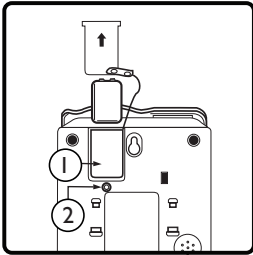

Figure 1
If there is a power outage, the XL50 will operate for up to 48 hours with four AA alkaline backup batteries (not included). If the phone is not in use, the batteries will stay charge for several months. See Figure 1.
1. Slide open the battery compartment cover on the bottom of the telephone. To open the battery compartment, use a pen or similar fine point instrument to press into small opening below the compartment door. This opening is pointed out with the #2 in Figure 1.